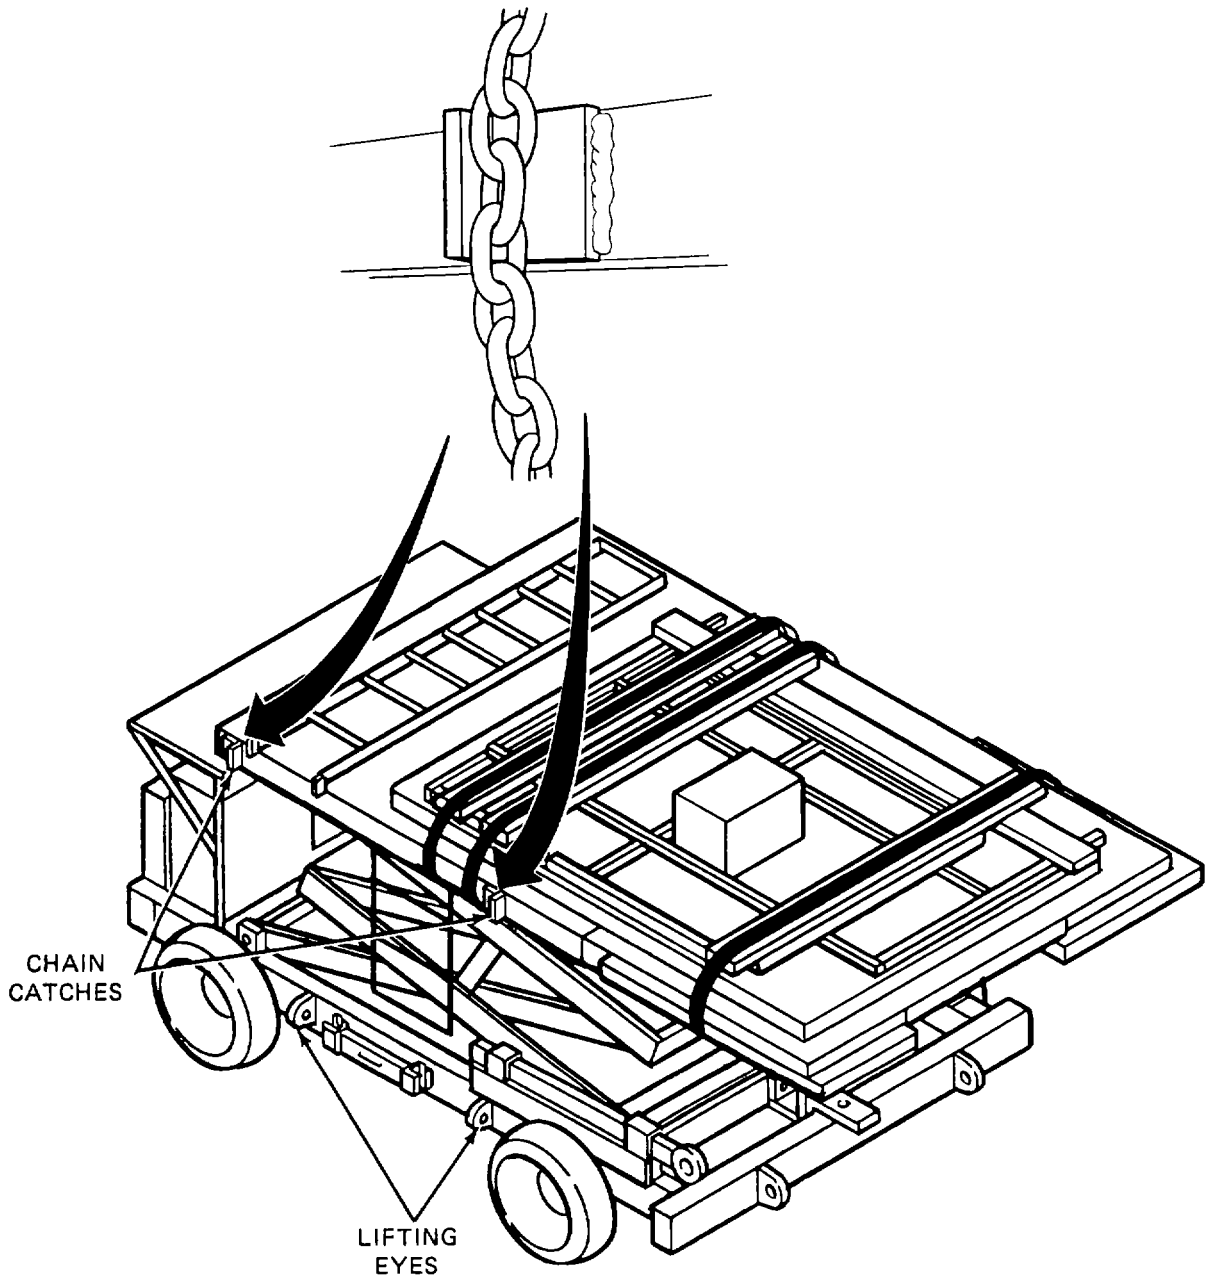

Figure 2-30 . SPEKS Sling Loading .
- (1) Stow the guardrails (See Para 2-12c).
- (2) Fasten the chains to the lifting eyes. See Figure 2-30.
- (3) Arrange the chains so they will be held in place by the chain catches on the sides of the platform.